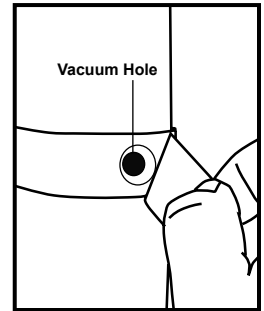

Figure 5
- Hold capsule upright. Remove the label covering vacuum hole (fig. 5).